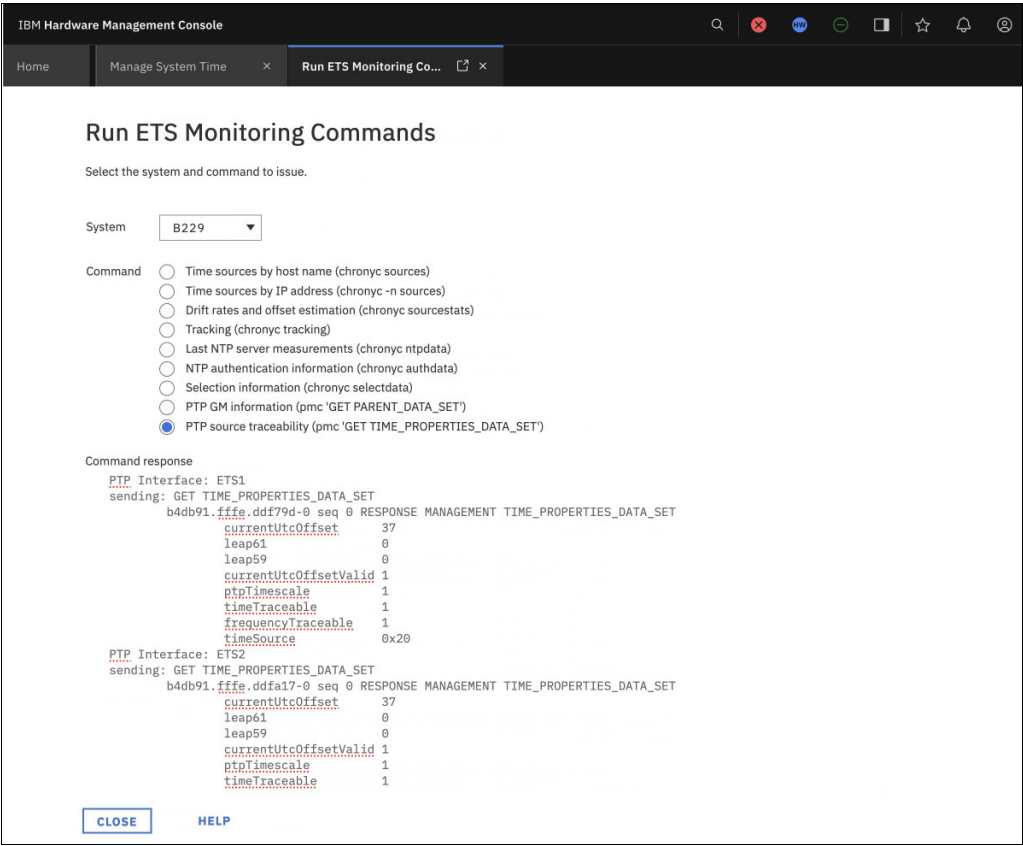

Figure 4-57 PTS source traceability
9. PTP source traceability is shown in Figure 4-57.